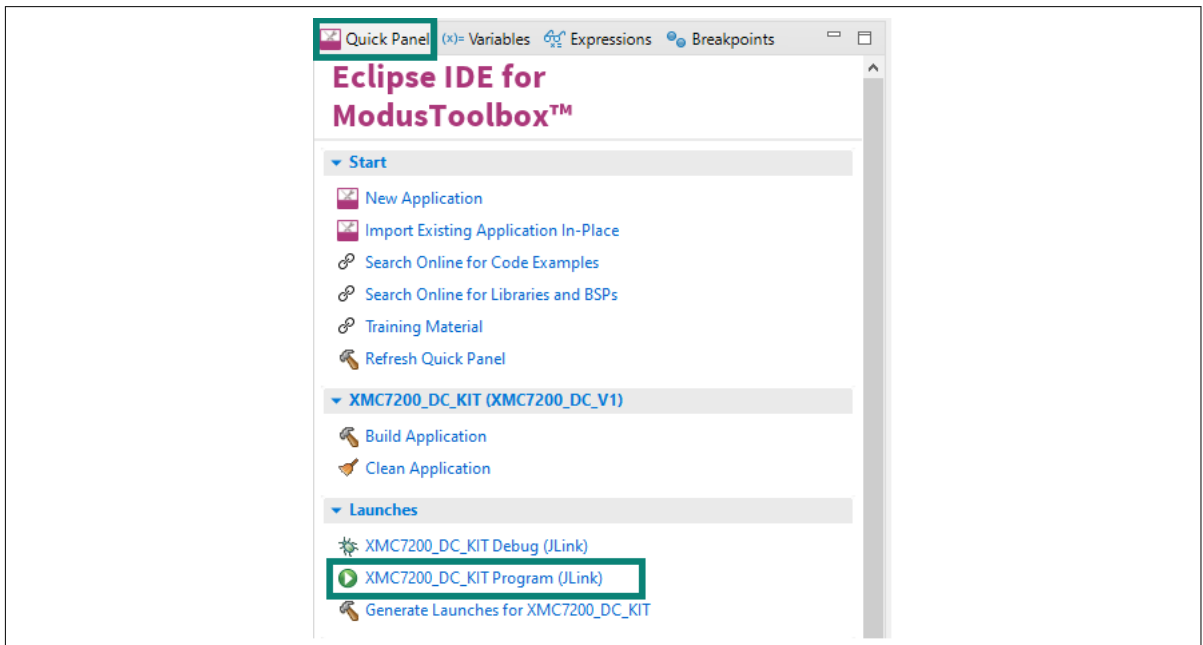

Figure 11 Programming in the ModusToolbox™ software
- To build and program a XMC7200D application, in the Project Explorer, select **<App_Name>** project. In the Quick Panel, scroll to the Launches section and click the **<App_Name> Program (JLink)** configuration, as shown in Figure 11.